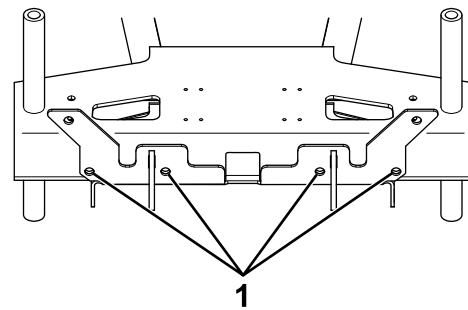

Figure 1
4. Using the plow skid plate as a guide, drill 4 holes (7/16 inch) in the vehicle bumper (Figure 1).